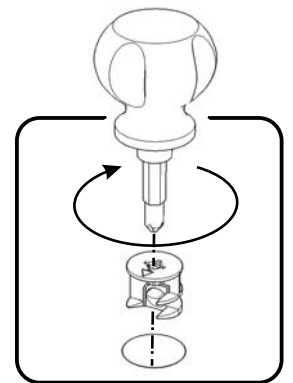

Figure 5
Attach Supports (G), (H), (I) and Posts (E), (F) to Side Panel (C) with Dowels and Cam Locks. (See Figure 5)